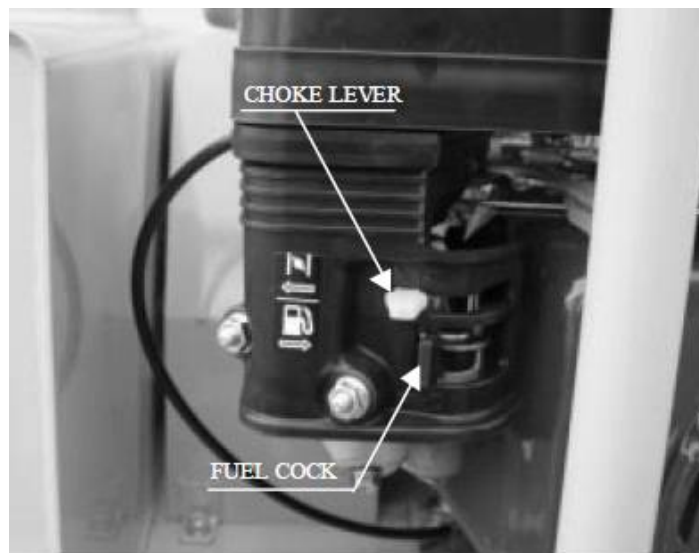

Figure 5-4
3. Close the choke lever and open the fuel cock on the fuel tank. Refer to Figure 5-4.